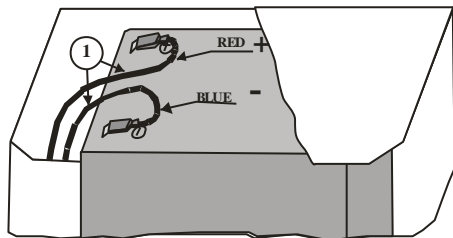

Fig.2
3. If the device is to work with an internal battery, it is to be connected observing its polarity (see Fig.2)